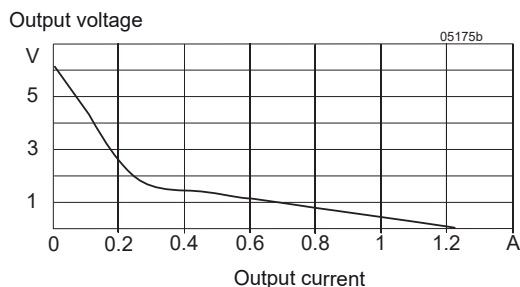

Fig. 20
Reduces the output power to approx. 1 W, but the converter is not fully disabled. In a no-load condition,  $V_o$  drops below 6.2 V; see fig. 20. In double-output models, only output 2 is influenced.
Resistor  $R_{\text{ext1}}$ , connected between R (pin 2) and GND1 (pin 1) of the D-SUB connector or according to fig. 20.
**Note:** If the R function is not included in M1 or M2, refer to figure 20 how to connect  $R_{\text{ext1}}$  or  $R_{\text{ext2}}$ .
b) Adjustment by an external control voltage  $V_{\text{ext}}$  (1.25 – 2.75 V), connected between R (pin 2) and GND (pin 1) of the D-SUB connector or according to fig. 20.